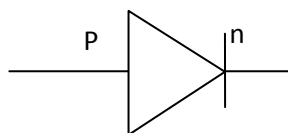

Fig 1.10 Junction Diode
- The junction diode is represented by the symbol as shown in Fig. 1.10